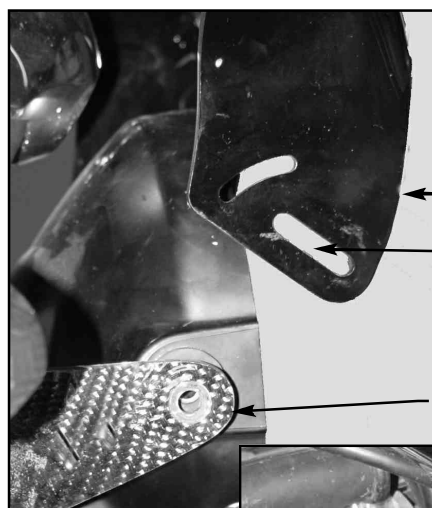

Figure 3
1. Position the windshield mounting tabs **between** the headlight brackets and the headlight shell. **Figure 3.**